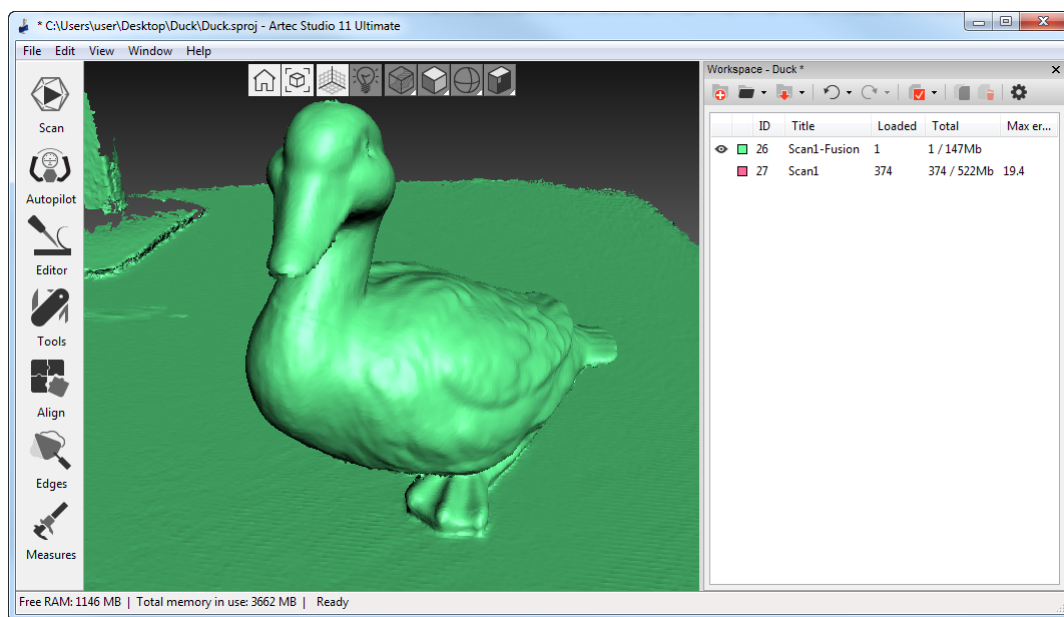

Figure 5.8: *Workspace* panel after using Real-time fusion.
6. When you stop scanning, the *Workspace* panel will add one or more raw scans named *Eva Scan1*, *Eva Scan2*, *Eva Scan3* and so on, as well as one model named *Eva Scan1-Fusion*. The number of these raw scans corresponds to how many times you pause and resume scanning (see Figure 5.8).